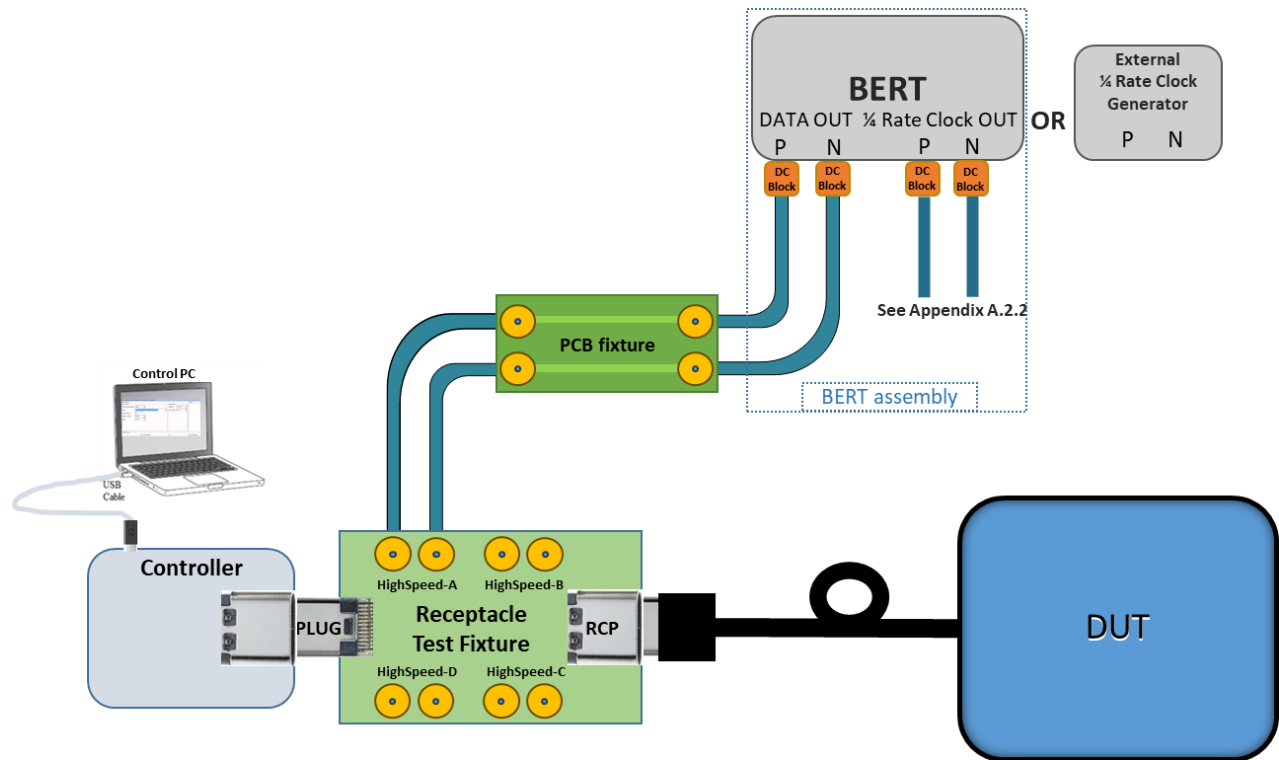

Figure 24. Captive Device Receiver Test Setup
Construct setup as shown in Figure 24. Connect USB4 micro-controller directly to Type-C plug connector of the test fixture as shown below. USB4 Micro-controller is connected
1. Construct the setup as shown in Figure 24, Section 6.2.2 of this document